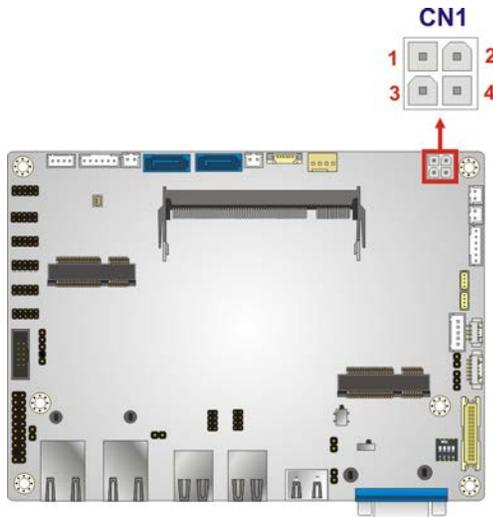

Figure 3-2: 12V DC-IN Power Connector Location
- CN Location:** See **Figure 3-2**